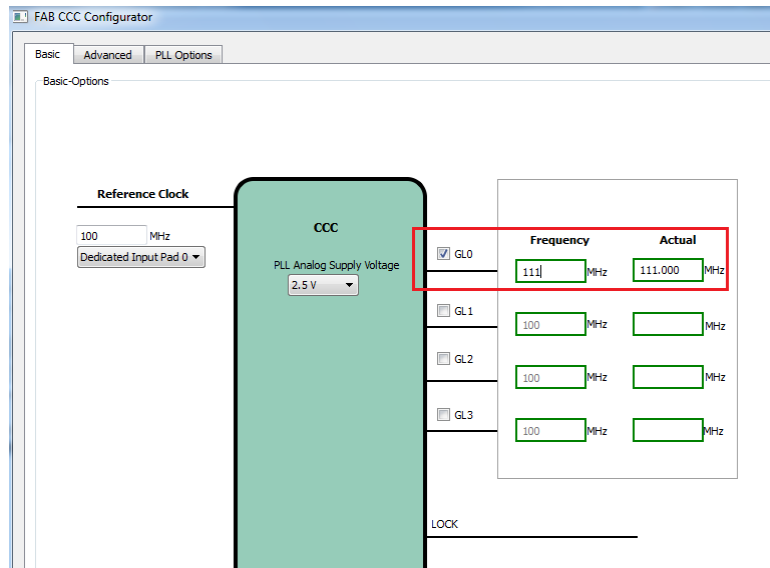

Figure 2-15 • Fabric CCC Configuration
- Instantiate the clock resources (FAB_CCC and chip oscillators) in the SmartDesign canvas and configure, as required. In this example, the fabric CCC is configured to generate 111 MHz, as shown in Figure 2-15.